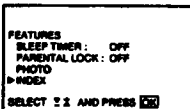

Fig. 25
- 3 Select "INDEX" with Δ+ or ∇- and press OK. (See Fig. 25.) The nine preset programmes appear in the separated screen in sequence, switching the picture for each seconds. After all the nine programmes are displayed, each sequence switch the picture with the sound for each five seconds. Press Δ+ also switches to the next nine programmes. (See Fig. 26.)